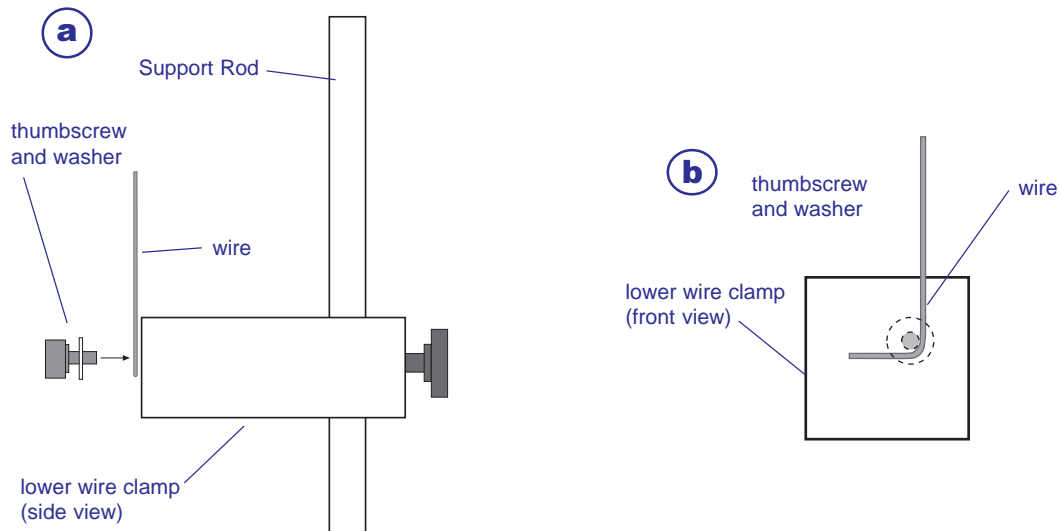

Figure 4
7. Align the guide of the upper wire clamp with the slot of the shaft of the RMS. Slide the upper wire clamp onto the shaft (Figure 4).